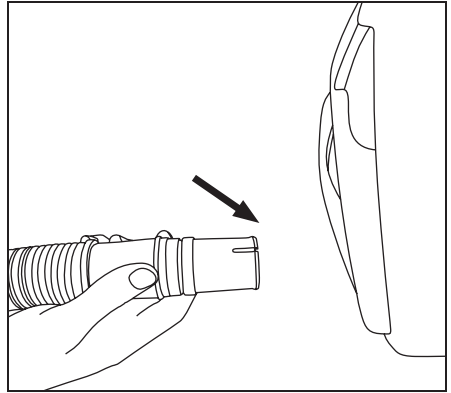

Fig. 3
- Attach the vacuum hose to the suction intake port and twist to lock into place (Fig. 3).
- Attach the vacuum hose to the suction intake port and twist to lock into place (Pg. 7, Fig. 3).